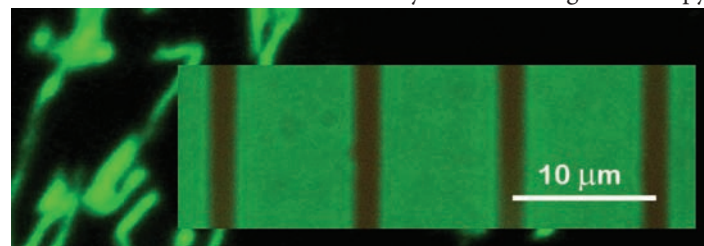

Figure 5. Scale bar drawn on the image of the stage micrometer.
9. Now use the Line Tool (without an arrowhead!) to generate a scale bar. Refer to Step 7 for drawing lines. Here is where you use the image of the scale micrometer that you added earlier. Position it somewhere near the lower right corner of the image. Each division on a typical stage micrometer equals 10 μm . From the upper toolbar, select white or black for your line, depending on the darkness in that part of your image, and a thickness (weight) that will be easily visible. Click in the center of one of the scale markers and draw a line across one or more of the divisions, ending in the center of another marker. If you can't see the line you have drawn, it is because that layer is behind the layer containing the micrometer image. Select the layer containing the micrometer image, then Layer>Arrange>Send to Back. This should place that layer under all of the others, except the background layer. The number of divisions you cover will depend on the magnification of your image; don't make it so long that it is distracting. Using the Text tool, type a line of text just above the scale bar, indicating what its length represents (e.g., 10 μm). Figure 5 is a small corner of a much larger image, showing how to draw the line on the image of the stage micrometer.